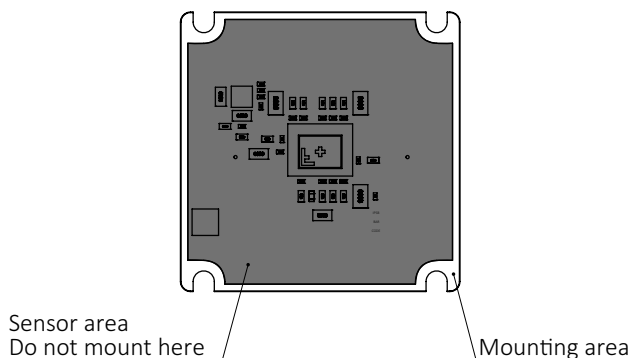

Figure 3: Mounting area for Alvium bare board cameras
- Mounting area of bare board cameras (see Figure 3).